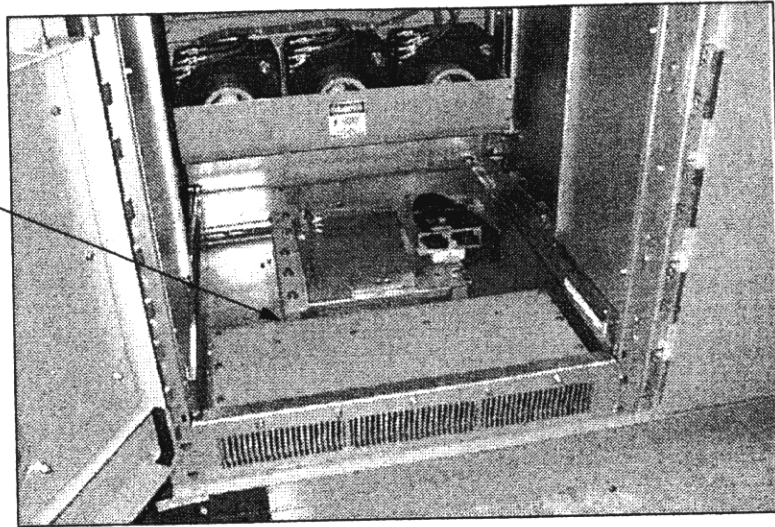
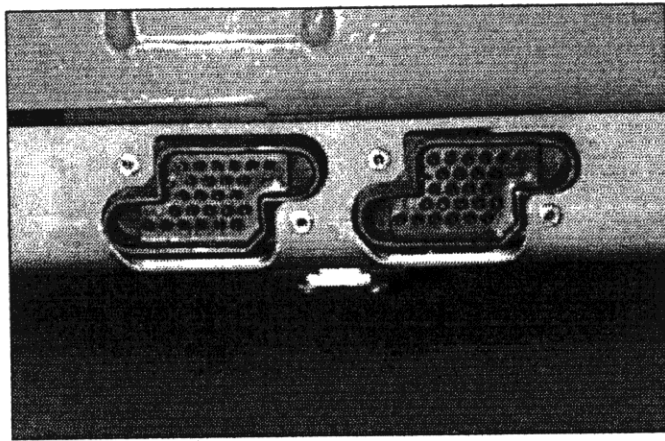

Figure 15. Location of 2000 and 3000 Amp Circuit Breaker Damper
Figure 20. Circuit Breaker mounted portion of disconnect system.
The Ventilation Vanes (see Figure 14) and Damper (see Figure 15) must be set into the open or operating position before final bolting together of the vertical sections.
All secondary and control connections on the SafeGear™ switchgear are factory wired in accordance with connection diagrams applying to the installation. A single (25 pin) fully automatic self-aligning secondary disconnect is provided as standard. A double (50 pin) disconnect arrangement is available as an option (see Figure 20). The female portion of the disconnect system resides in the breaker compartment, so that energized contacts are recessed and remain "touch safe (Figure 15)." A total of up to 17 breaker auxiliary contacts are available on the circuit breaker and wired through the automatic secondary disconnect system. The standard switch configuration is (4) "a" contacts and (4) "b" contacts. Optional additional breaker mounted contacts include (5) "a" contacts and (4) "b" contacts, wired through an optional additional secondary disconnect. The secondary and control connections for all outgoing connections are wired to terminal blocks accessible to the system wiring.